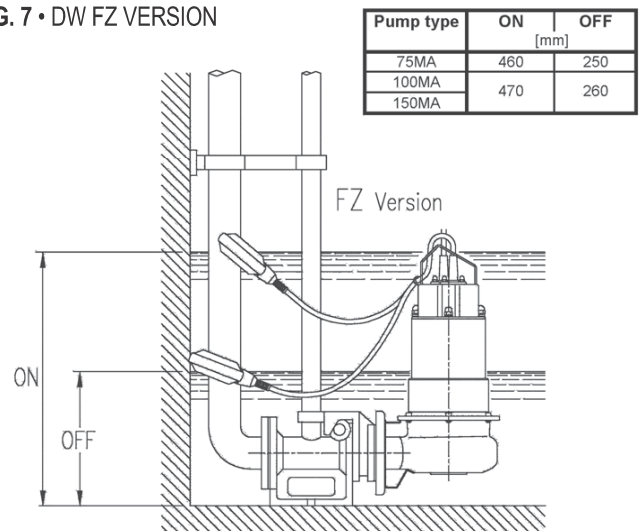

FIG. 8 • OPTIMA – BEST ONE – BEST ONE VOX
7.1. ELEKTROPUMPE OPTIMA - BEST ONE – ONE VOX (ABB. 8)